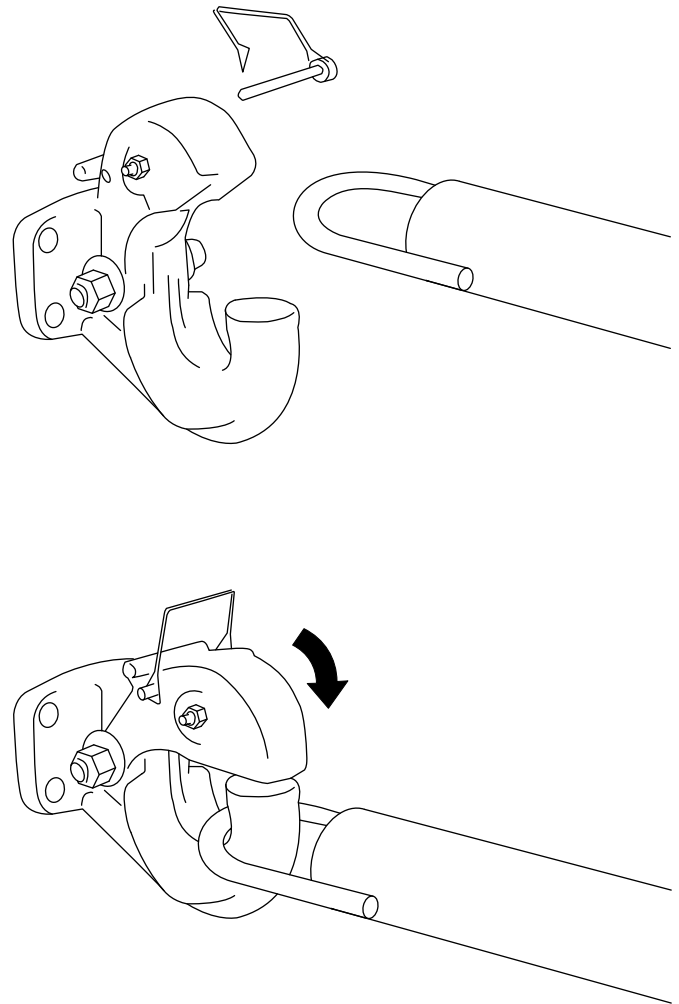

Figure 18
1. Remove the pin from the pintle hitch and open it (Figure 18).
2. Position the ring on the tow pole onto the hook of the pintle hitch (Figure 18).
3. Close the top of the pintle hitch and secure it with the pin (Figure 18).